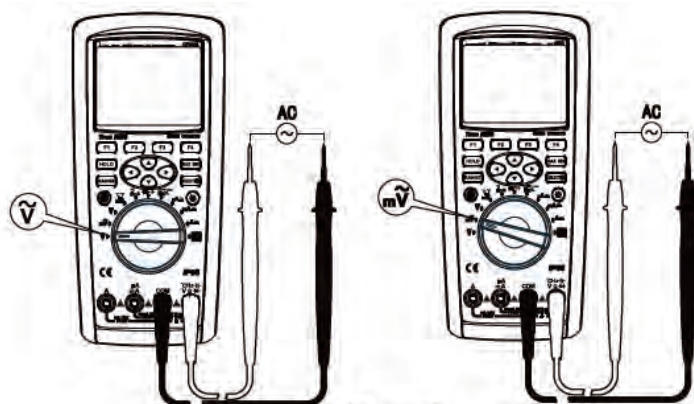

Figure 5
- 2) Set the rotary switch to V or mV as shown in Figure 5. Connect the test leads to the power or load under test in parallel.